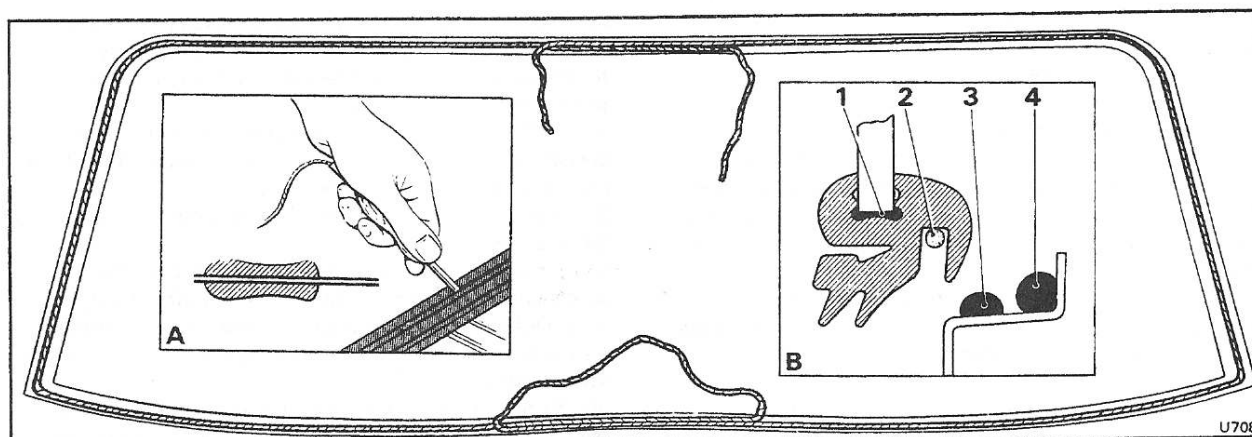

Fig. S134 Fitting the cord around the rubber seal and positioning the sealant inside the seal and windscreen aperture
7. Turn the windscreen over so that the inner face is uppermost then, using a tool similar to the one shown in Figure S134, inset A, thread a length of thin cord around the inside edge of the rubber seal; leave a loop in the cord at the bottom of the windscreen and overlap the two free ends of the cord at the top of the screen (see Fig. S134). Temporarily secure the loose ends of the cord to the inside of the screen with masking tape.
bottom corner of the windscreen aperture (see Fig. S134, inset B).
7. Turn the windscreen over so that the inner face is uppermost then, using a tool similar to the one shown in Figure S134, inset A, thread a length of thin cord around the inside edge of the rubber seal; leave a loop in the cord at the bottom of the windscreen and overlap the two free ends of the cord at the top of the screen (see Fig. S134). Temporarily secure the loose ends of the cord to the screen with masking tape.